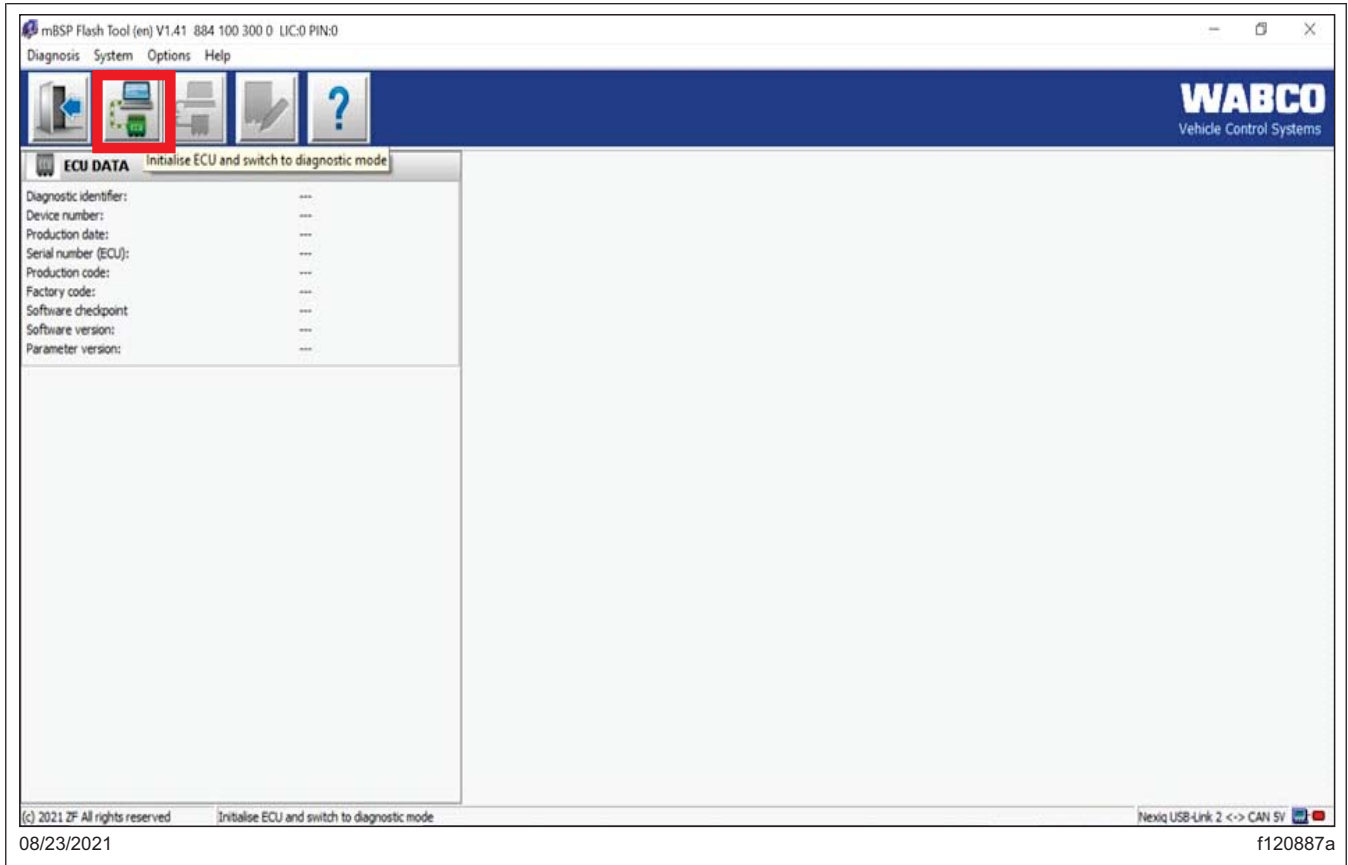

Fig. 27, Initialize ECU and Switch to Diagnostic Mode
12. If the ECU does not automatically connect, select the button in Fig. 27 'Initialize ECU and switch to diagnostic mode.'